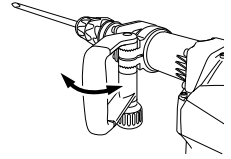
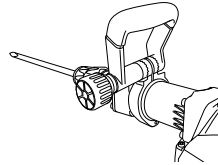
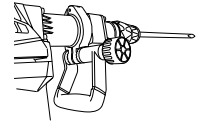

Fig. 7
Fig. 8
Fig. 9
- (2) Adjust it to a position where vertical (up-and-down) operation can be facilitated as illustrated in Fig. 7, Fig. 8, and Fig. 9.
- (3) Turn the grip in the direction of **(B)** and fix the handle.